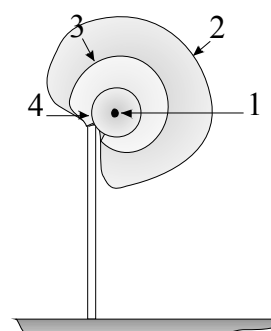

Fig. 4.9
4.14 When a detector is placed in the upper part of the barrier (almost the “canopy-type” version), take the influence of reflected waves into account in the same manner as in section 4.13. Select a height of placement of the units above the barrier so that the waves reflected from the barrier do not project onto the radioparent surface of the RU. In such case for installation use special KVZ-holders available in the content of delivery. Fig. 4.9 (same as in Fig. 4.4 with the same designations) shows approximate DA cross-sections for the “canopy-type” version.